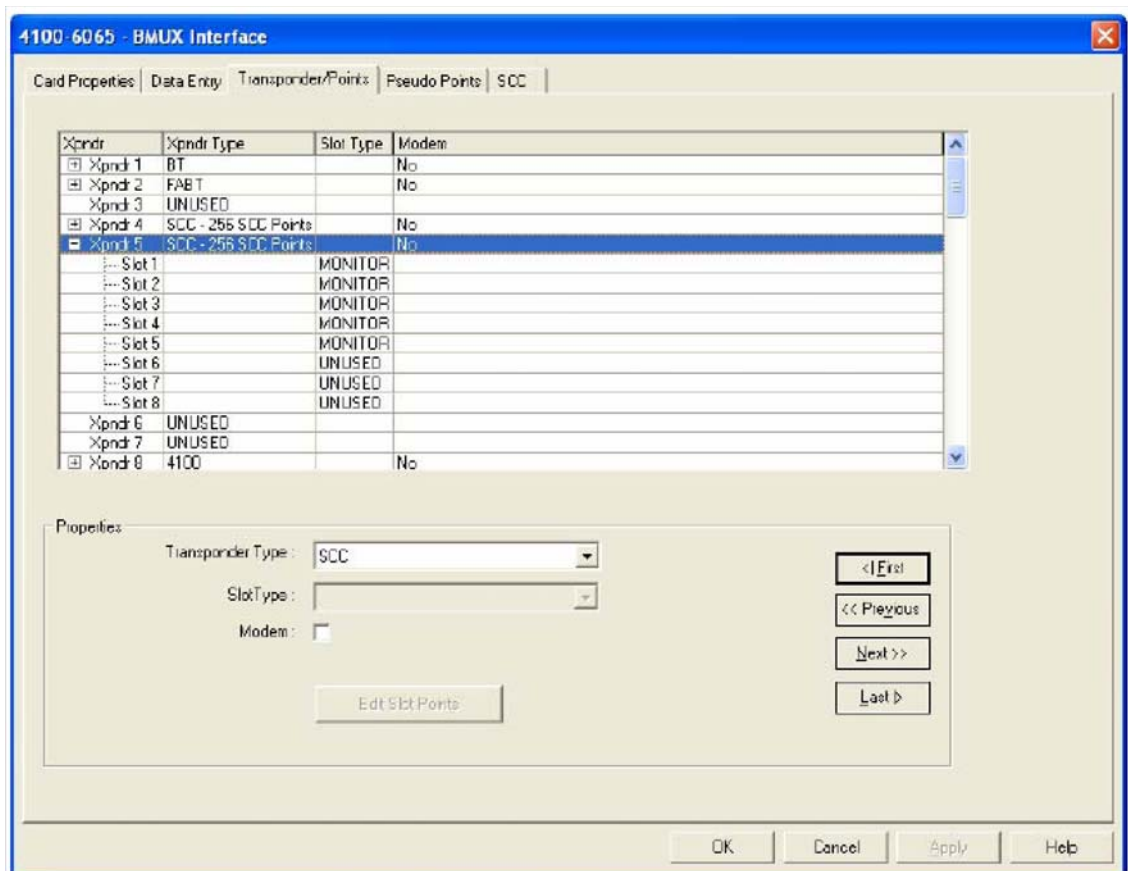

Figure 6-39. Transponder/Points Dialog
- Click on the **Transponder/Point** tab of the 4100 6065 BMUX Interface. A dialog box appears as shown in Figure 6-39.